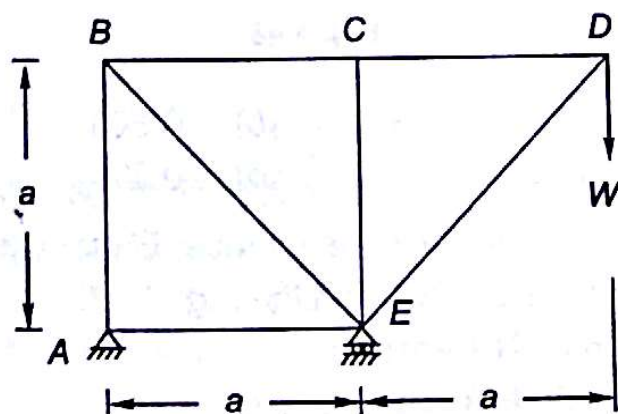

Fig. 4.38
4.9 A truss ABCDE is shown in Fig. 4.38. A load W acts at joint D as shown in Fig. 4.38. What is the force in member BC?